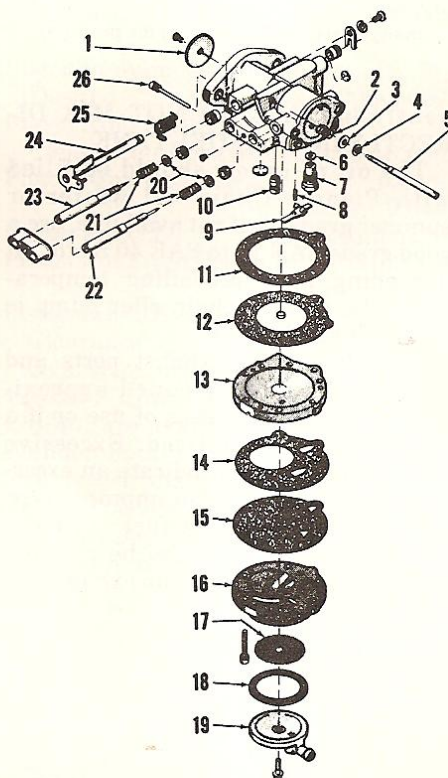
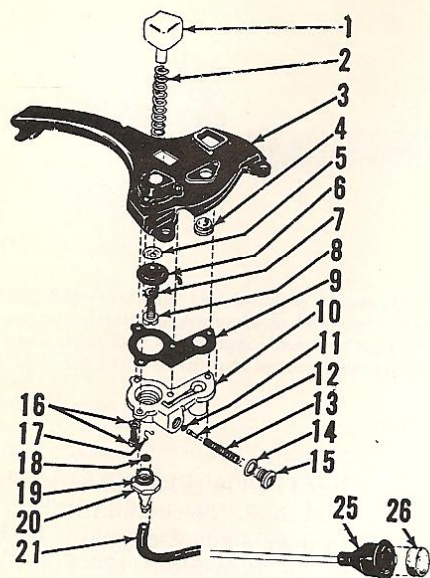

Fig. PR1-2—Exploded view of Tillotson HL model carburetor used on 450, 550 and NU17 models.
Fig. PR1-4-Exploded view of fuel primer pump and associated parts used on most models.
CARBURETOR. A Brown 1-PA carburetor (Fig. PR1-1) was originally used on 400, 400A and 410 models. The carburetor used on the earliest of these models was equipped with a choke as shown (28 thru 31); however, later models use a fuel primer pump (Fig. PR1-4) and the choke operating parts are removed. A Tillotson HL-108A carburetor (Fig. PR1-2) and a fuel primer pump (Fig. PR1-4) are used on all NU17, 450 and 550 models.
PR1-1) is 3/4 to 1 turn open and 1 to 1 1/4 turns open for the idle mixture needle (23). On Tillotson carburetors, normal setting is 3/4 turn open for both the high speed needle (22—Fig. PR1-2) and the idle mixture needle (23). On all models, clockwise rotation of the adjusting needles will lean the mixture.
The fuel primer pump (Fig. PR1-4) is located on the control panel of models so equipped. Depressing primer button (1) should squirt a small amount of fuel into the carburetor inlet for starting. Inspect the check valves (12 & 18), diaphragm (6) and filter (26) if fuel primer pump does not operate.
Fig. PR1-1—Exploded view of the Brown diaphragm carburetor used on early models. Springs (27) are located above both check valves. Choke parts (28 & 31) are sometimes removed when fuel primer pump (Fig. PR1-4) is installed. Refer to Fig. PR1-2 for legend except the following.